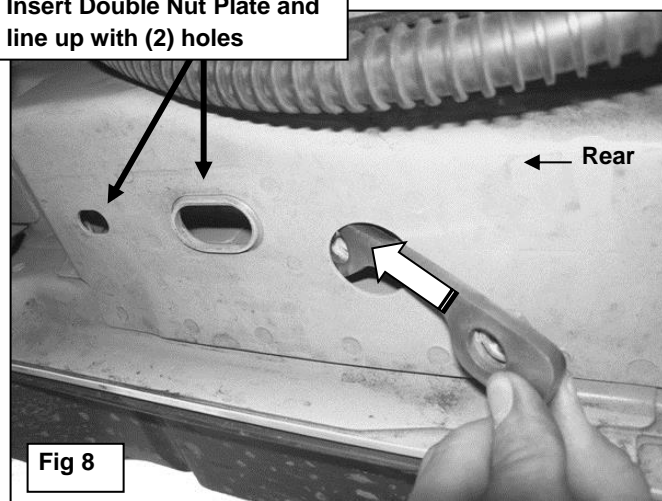

Fig 8
7. Insert (1) Double Nut Plate through the large round hole and line up the threaded nuts on the nut plate with the smaller round and oval holes, **(Figure 8)**. **NOTE:** Nut Plate must be flat against the inside of the body panel with the Welded nuts on top.